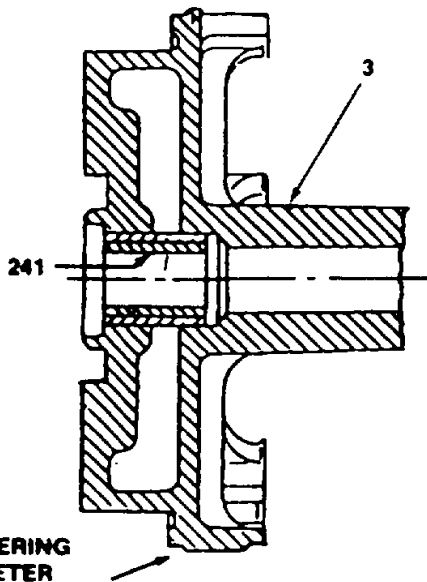

Figure 4
- sleeve out of Figure 4 cover (3). It may be necessary to destroy the sleeve bearing (241) to remove it. Careful not to damage the cover (3). If necessary remove sleeve by machining in lathe. Chuck cover (3) in a lathe to assure maximum total indicator reading (T.I.R.) of 0.002 in. (0.05mm) at centering diameter (see Figure 4).
9. Remove the radial seal rings (400). The radial seal rings are metal encapsulated. Insert small screwdriver in-between the seal ring and the cover (3). A twisting action will deform ring sufficient to facilitate the removal. During the disassembly the radial seal ring must be deformed in order to remove. Removed rings can not be reused.